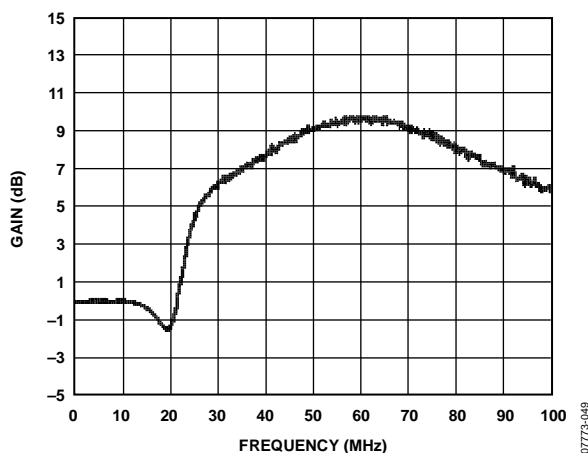
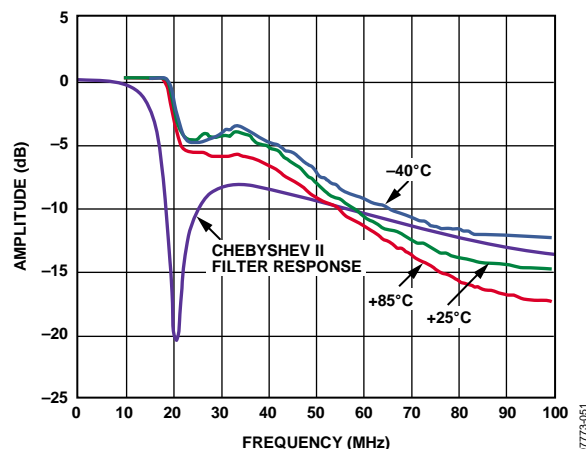
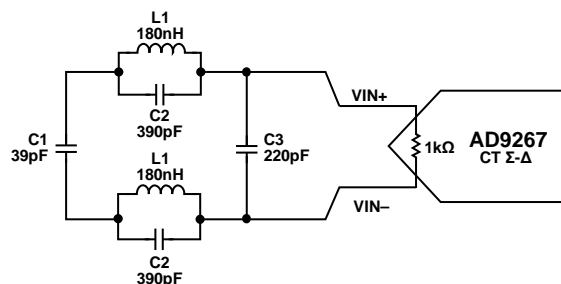

Figure 43. STF
Figure 44. Maximum Input Level for 3 dB Noise Degradation
Figure 45. Third-Order Low-Pass Chebyshev II Filter
An overrange condition can be triggered by large in-band signals that exceed the full-scale range of the  $\Sigma$ - $\Delta$  modulator, or it can be triggered by out-of-band signals gained by the transfer characteristics of the modulator. Figure 43 shows the signal transfer function of the  $\Sigma$ - $\Delta$  modulator. The modulator output possesses out-of-band gain above 10 MHz. As a result, the input signal may exceed full scale for input frequencies beyond 10 MHz and the ADC may be in an overrange state. The OR $\pm$ x pins serve as indicators for the overrange condition.
Figure 43 shows the normalized STF of the AD9267 CT  $\Sigma$ - $\Delta$  converter. The figure shows out-of-band peaking beyond the band edge of the ADC. Within the 10 MHz band of interest, the STF is maximally flat with less than 0.1 dB of gain. Maximum peaking occurs at 60 MHz with 10 dB of gain. To put this into perspective, for a fixed input power, a 5 MHz in-band-signal appears at -5 dBFS, a 25 MHz tone appears at -2 dBFS and 60 MHz tone at +5 dBFS. Because the maximum input to the ADC is -2 dBFS, large out-of-band signals can quickly saturate the system. This implies that under these conditions, the digital outputs of the ADC no longer accurately represents the input. Refer to the Overrange (OR) Condition section for details on overrange detection and recovery.
Figure 43 shows the gain profile of the AD9267 and this can be interpreted as the level in which the signal power should be scaled back to prevent an overload condition. This is the ultimate trip point and before this point is reached, the in-band noise (IBN) slowly degrades. As a result, it is recommended that the low-pass filter be designed to match the profile of Figure 44, which shows the maximum input signal for a 3 dB degradation of in-band noise. The input signal is attenuated to allow only 3 dB of noise degradation over frequency.
The noise performance is normalized to a -2 dBFS in-band signal. The AD9267 STF and NTF are flat within the band of interest and should result in almost no change in input level and IBN. Beyond the bandwidth of the AD9267, out-of-band peaking adds gain to the system, therefore requiring the input power to be scaled back to prevent in-band noise degradation. The input power is scaled back to a point where only 3 dB of noise degradation is allowed, therefore resulting in Figure 44.
An example third-order low-pass Chebyshev II type filter is shown in Figure 45 and the corresponding magnitude vs. frequency response of the filter is shown in Figure 44.
In addition to matching the profile of Figure 44, group delay and channel matching are important filter design criteria. Low tolerance components are highly recommended for improved channel matching, which translates to minimal degradation in image rejection for quadrature systems.